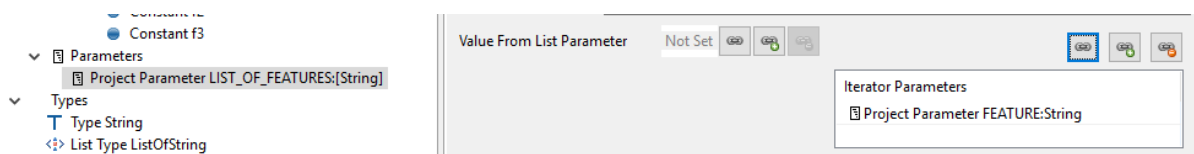

Figure 72: Assignment of Iterator Parameters
- Link the LIST_OF-Parameter to the process parameter as "Values from" or "Iterator" parameter, such that the process parameter iterates over the list parameter, i.e. received the values from it, see Figure 72. Note that the list parameter has to have a List-Type, usually list of String.